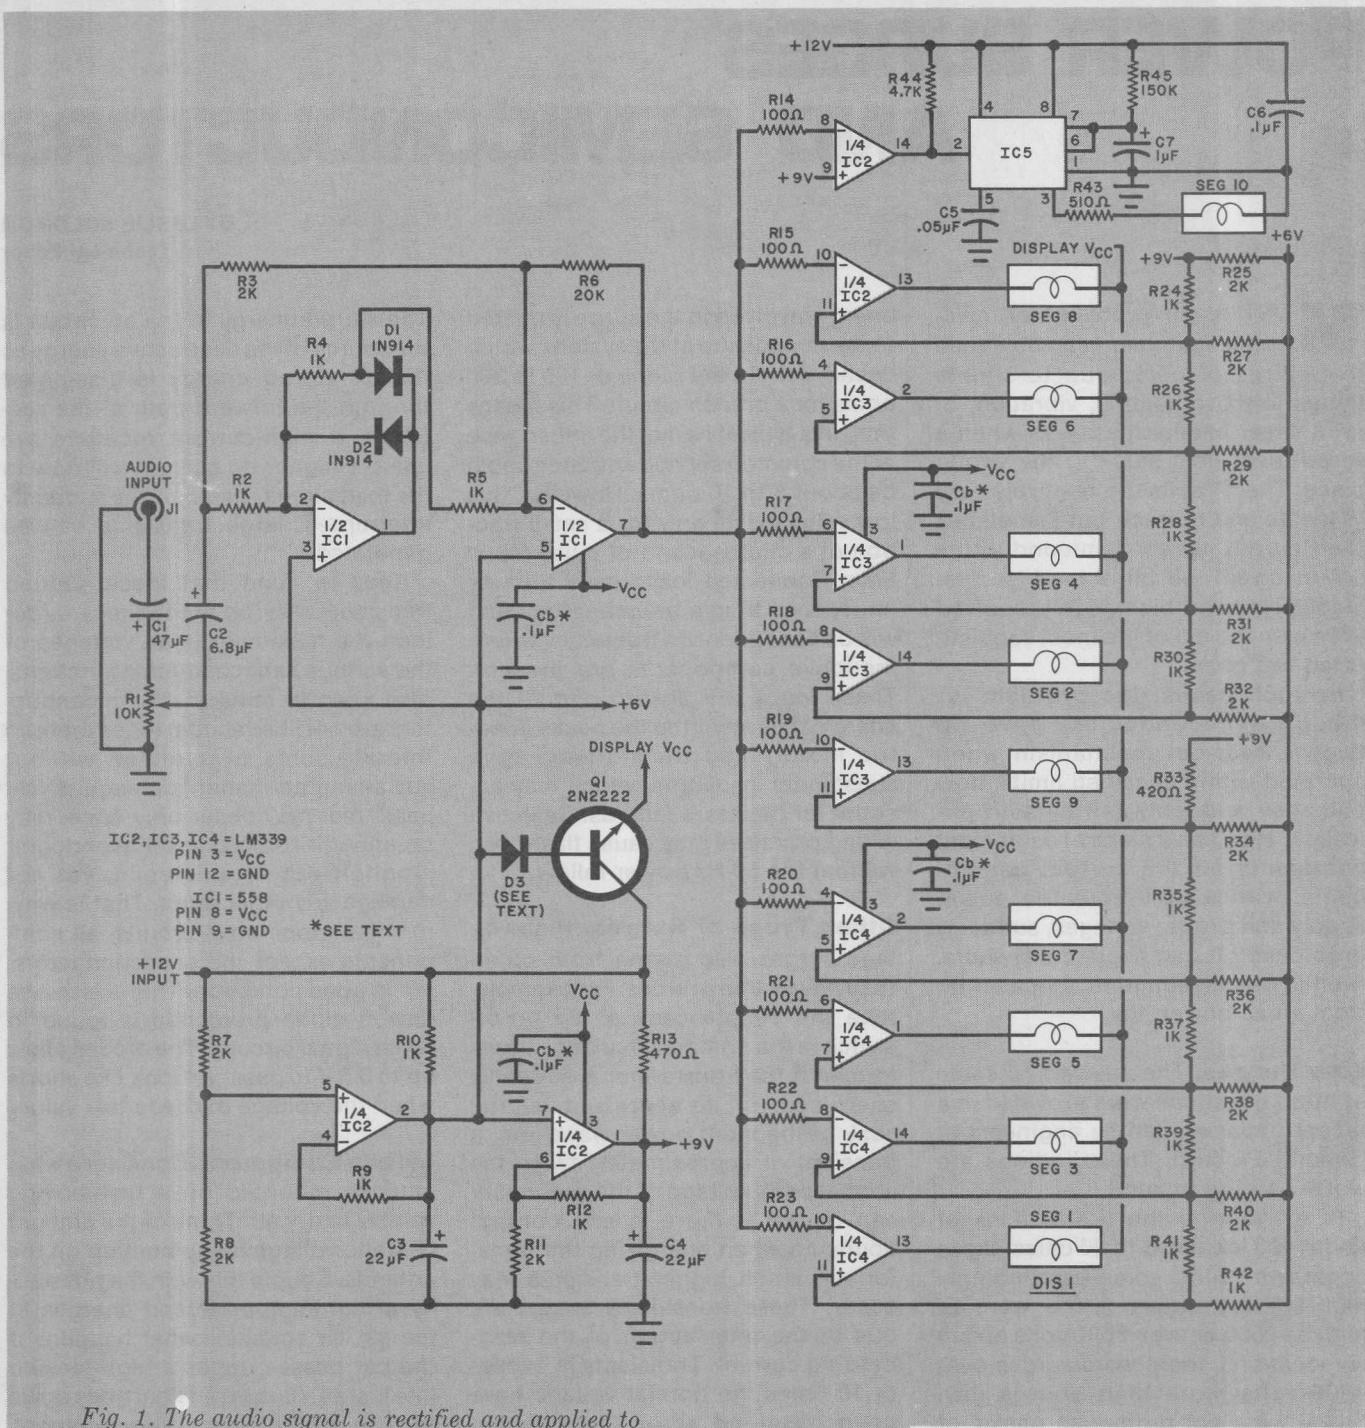

Fig. 1. The audio signal is rectified and applied to sequential comparators, which turn on filaments in display.
**Circuit Operation.** As shown in Fig. 1, potentiometer  $R_1$  sets the level of the audio input to a precision full-wave rectifier that uses both halves of  $IC_1$ . The rectified output is coupled to 10 parallel voltage comparators in  $IC_2$ ,  $IC_3$ , and  $IC_4$ .